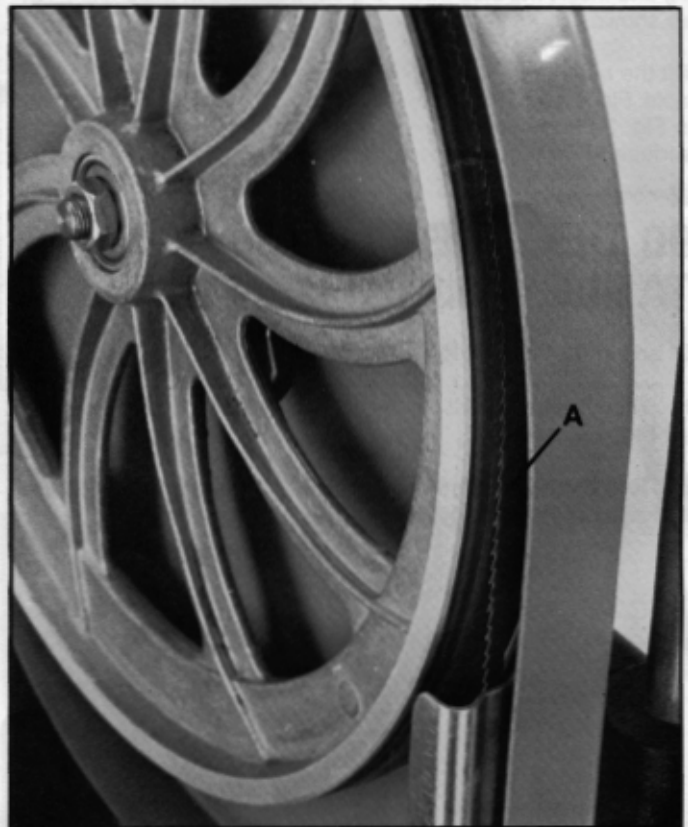
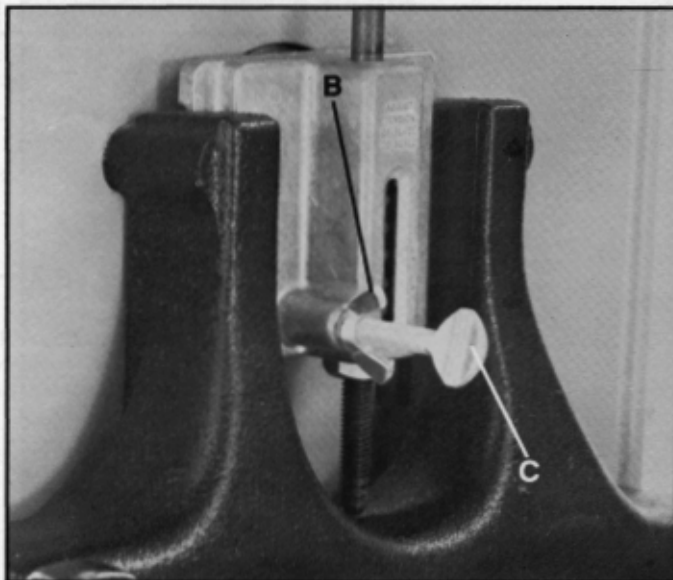

Fig. 32
Fig. 33
After tension has been applied to the blade, revolve the wheels slowly forward by hand and watch the blade (A) Fig. 32, to see that it travels in the center of the upper tire. If the blade begins to creep toward the front edge, loosen the wing nut (B) Fig. 33, and tighten the thumb screw (C). This will tilt the top of the wheel toward the back of the machine and will draw the blade toward the center of the tire. If the blade creeps toward the back edge, turn the thumb screw in the opposite direction. Adjust the thumb screw (C) Fig. 33, only a fraction of a turn at a time. **NEVER TRACK THE BLADE WHILE THE MACHINE IS RUNNING.** After the blade is tracking in the center of the tires, tighten the wing nut (B) Fig. 33.